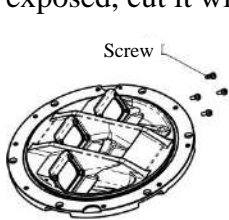

Figure 5-15
- With the cross screwdriver, dismount M5×12 screws and take down the prism pressing bracket, prism washer, lens and lens gasket sleeve in succession (see Figures 5-15, 5-16 and 5-17);